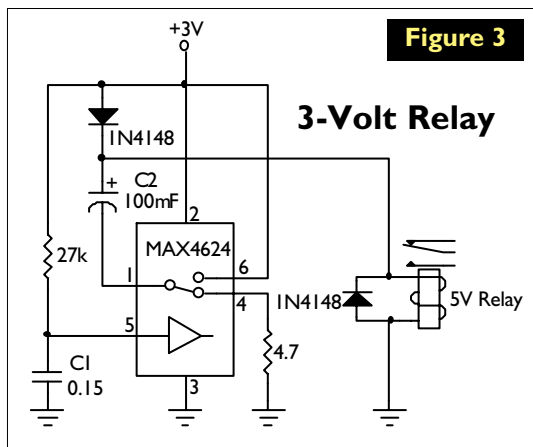

Figure 3
After that, the relay will remain closed, so long as the 3 volt source remains. There are a lot of ways to do this, but the simplest I've found is one using Maxim's MAX4624 analog switch, as shown in Figure 3. For it to work, the charging time of C1 must be longer than the charging time of C2; i.e., C2 must be fully charged before the analog switch turns on.
Q. About your "Another Zero-Crossing Detector" in the October 2003 column: Can the circuit described in Figure 3 be adapted to a 12 volt tachometer circuit? That is, can the input be changed so it looks at a rotating, segmented black and white wheel on the end of a rotating shaft (instead of the bridge input) and the entire circuit be run on 12 volts instead of 5 volts?